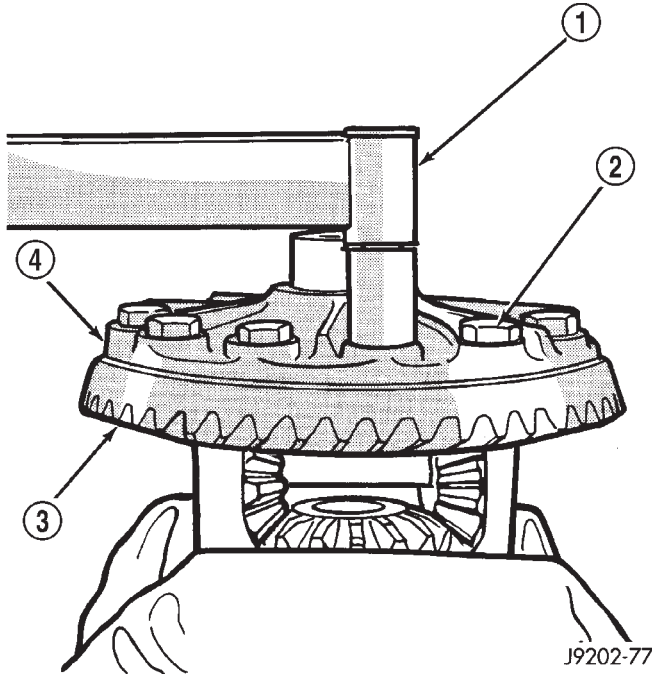

Fig. 23 Ring Gear Bolt Installation
- (2) Position ring gear on the differential case and start two ring gear bolts. This will provide case-to-ring gear bolt hole alignment.
- (3) Invert the differential case in the vise.
- (4) Install new ring gear bolts and alternately tighten to 102 N·m (75 ft. lbs.) torque (Fig. 23).
- (5) Install differential in axle housing and verify gear mesh and contact pattern.